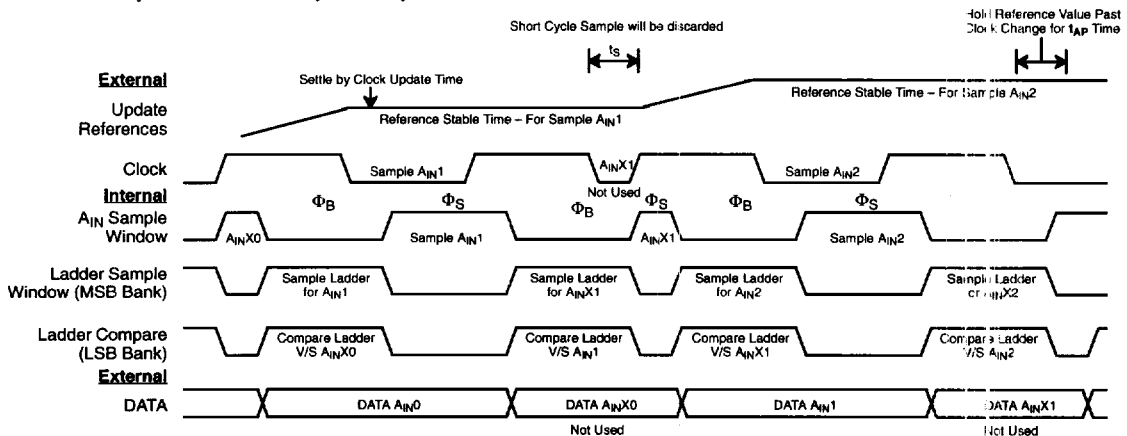

Figure 3. A_{IN} Sampling, Ladder Sampling & Conversion Timing
- 2 Tester measures code transition voltages by dithering the voltage of the analog input (V_{IN}). The difference between the measured code width and the ideal value (V_{REF}/1024) is the DNL error (see Figure 3). The INL error is the maximum distance in LSBs from the best fit line to any transition voltage (See Figure 7).
Figure 3. shows this relationship as a timing chart. A_{IN} sampling, ladder sampling and output data relationships are shown for the general case where the levels which drive the ladder need to change for each sampled A_{IN} time point. The ladder is referenced for both last A_{IN} sample and next A_{IN} sample at the same time. If the ladder's levels change by more than 1 LSB, one of the samples must be discarded. Also note that the clock low period for the discarded A_{IN} can be reduced to the minimum t_S time of 150 ns.